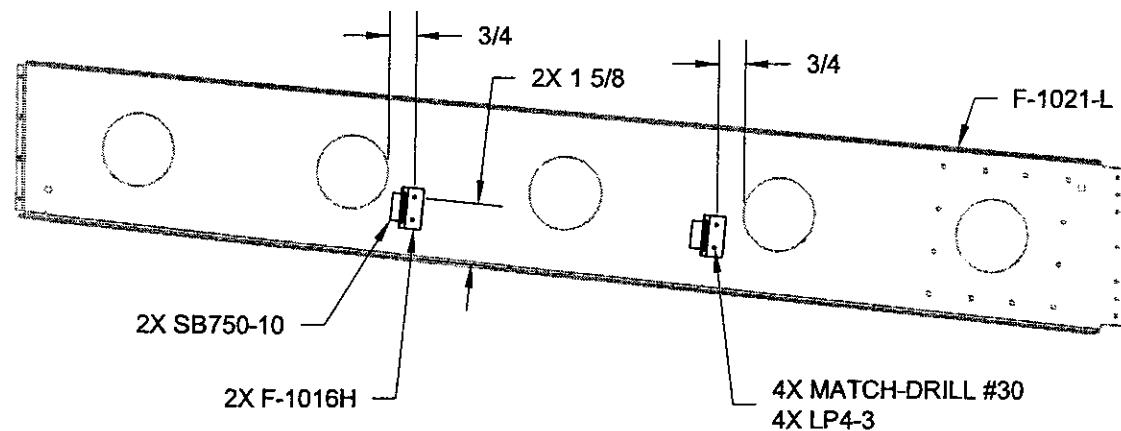

FIGURE 2: ATTACHING BRACKETS (LEFT SIDE VIEW)
Step 2: Enlarge the $\text{\O}5/8$ holes in the F-1016H Guide Brackets to $\text{\O}3/4$. Install them onto the F-1021-L Outboard Baggage Rib as shown in Figure 2 using the hardware called out and in the same manner as the F-10111 Angle Brackets on Page OP37-10 Step 1.